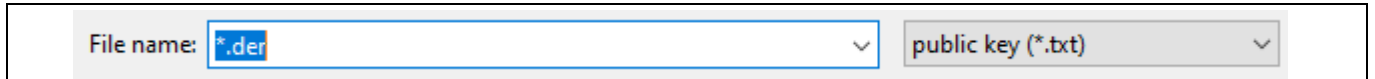

Figure 17 Selecting new public key with der extension
8. As shown in Figure 17, when *.der is typed, the file explorer shows the files with the der extension. Select the required public key file and click **Open**.